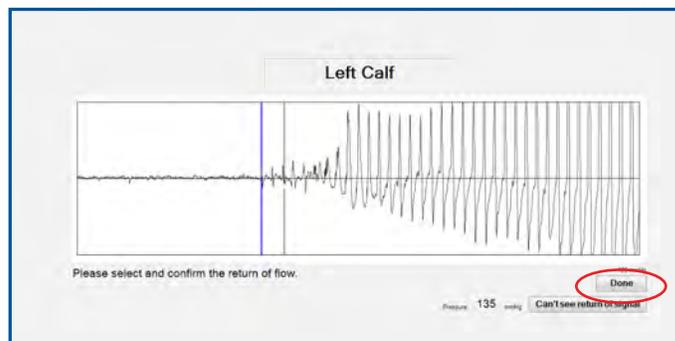

FIGURE 1.22 - Left Calf Return of Flow - “Done” Button
26. After pressure is released from the cuff, click the point of return of flow as detected by the PPG probe. Click “Done” (Figure 1.22).